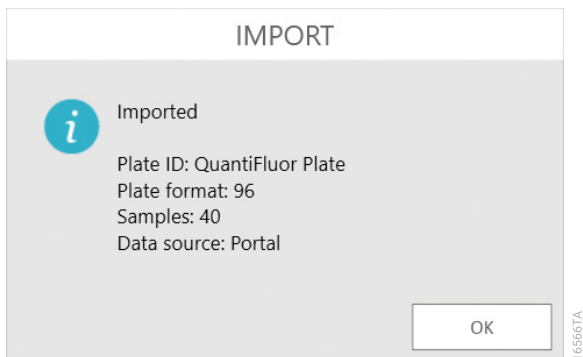

Figure 50. 'Import' screen. The 'Import' screen displays a summary of information retrieved from the Portal software.
7. Tap the **Import** button to import the plate map retrieved from the Portal software and open the Plate View tab. An 'Import' screen is shown, summarizing the results of the plate import including the Plate ID, plate format and number of samples retrieved (Figure 50). Tap **OK** to dismiss the 'Import' screen.